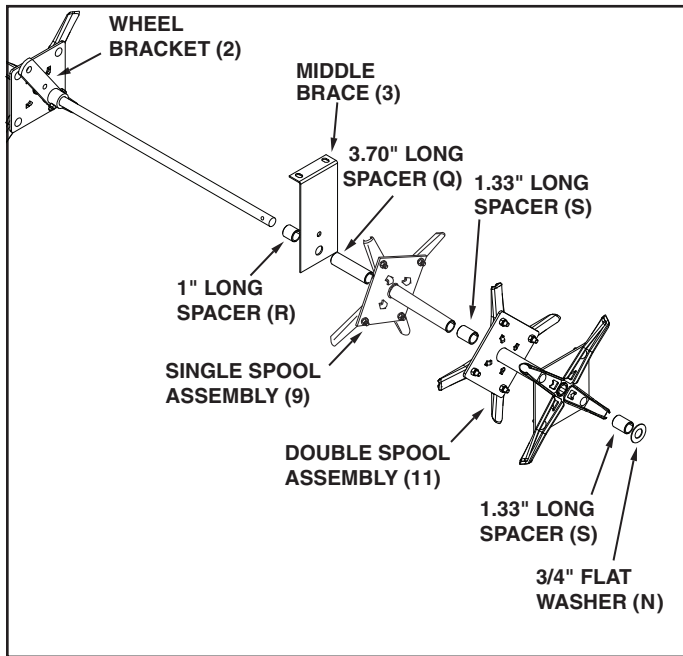

FIGURE 4
- Assemble a 1" long spacer (R) and the middle brace (3) onto the long end of the shaft with the bent end of the brace facing the wheel bracket. Next, add a 3.70" long spacer (Q), a single spool assembly, a 1.33" long spacer (S), a double spool assembly, a 1.33" long spacer (S) and a 3/4" flat washer (N) onto the long end of the shaft. See figure 4.